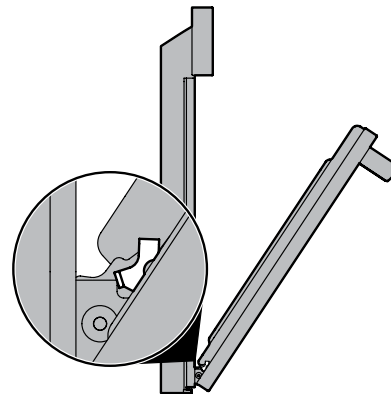

Figure 22: Removal position
3. Grasp the door by the sides, and close the door until the door frame makes contact with the unlocked hinges (Figure 22).
2. Hold the oven door at the same angle as the removal position (Figure 22) Carefully insert the hinge levers into the oven frame until you feel the hinge levers are seated into the hinge notches. The hinge arms must be fully seated into the hinge notches before the oven door can be fully opened.